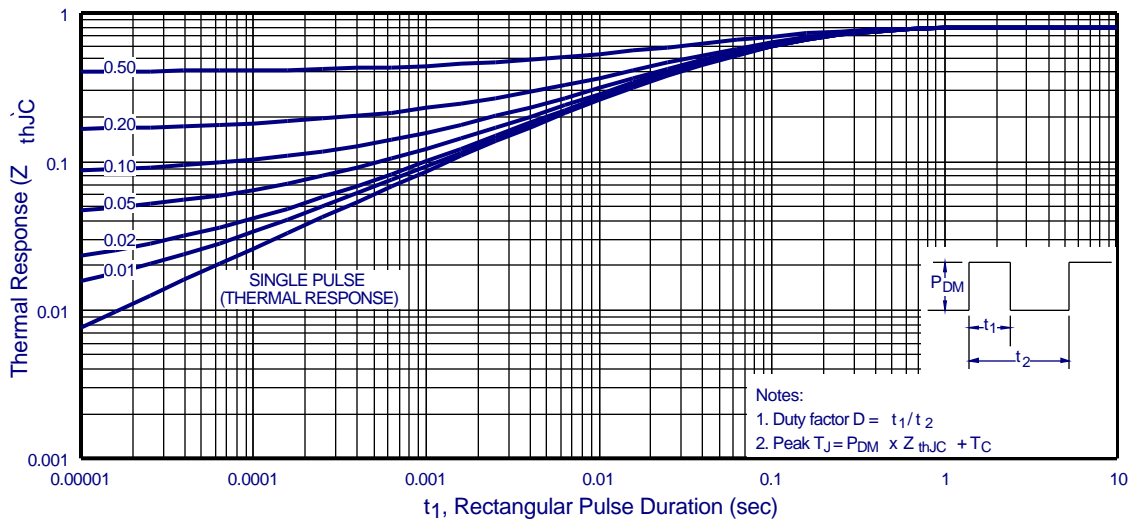

Figure 26. – Maximum Effective Transient Thermal Impedance, Junction-to-Case Vs. Pulse Duration
- ① Repetitive Rating; Pulse width limited by maximum junction temperature. (figure 26)